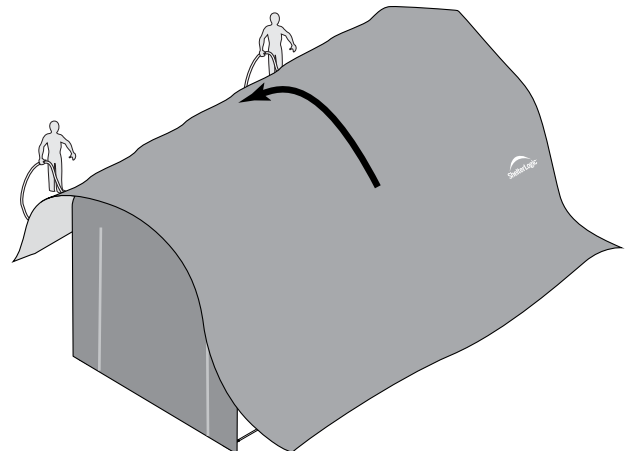

Fig.11D
D. Move to the other side of the frame and pull the cover over the frame with the rope. This may require two or more people. Fig. 11D